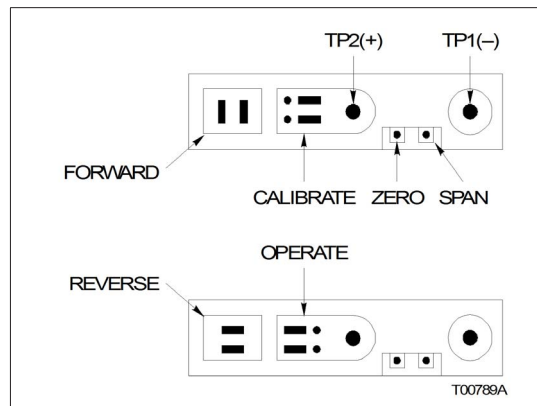

Figure A-4. Calibration Features for 4 to 20-mA Position Transmitter
1. Remove the FOR/REV jumpers, and place the CAL/OPER jumpers in the calibrate (CAL) position (Fig. A-4).
4. Place the CAL/OPER jumpers into the operate (OPER) position (Fig. A-4). If a direct acting cam is being used, place the FOR/REV jumpers in the FOR position. For a reverse acting cam, place these jumpers in the REV position (Fig. A-4).
7. Adjust the zero potentiometer to 4.00 mA. Refer to Figure A-4 for the location of the zero potentiometer.
8. Move the actuator to the 100% position. Adjust the span potentiometer to 20.00 mA. Refer to Figure A-4 for the location of the span potentiometer.